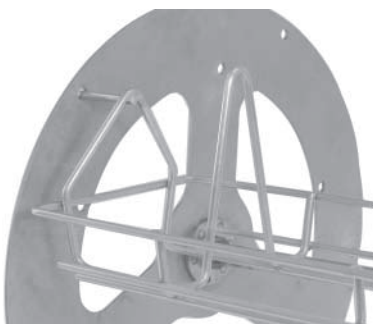

Fig. 22
1. Place non-notched end of Rack or Basket into outside hole on non-drive side of rotor (Fig. 22).